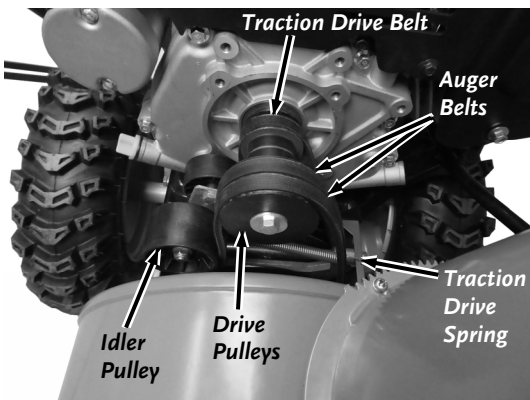

Figure 62
4. Roll the front Auger Belt off the front of the Engine Drive Pulley and the rear Auger Belt off the back of the Engine Drive Pulley (**Figure 62**).
12. Install the Friction Drive Spring to the Frame (**Figure 62**).